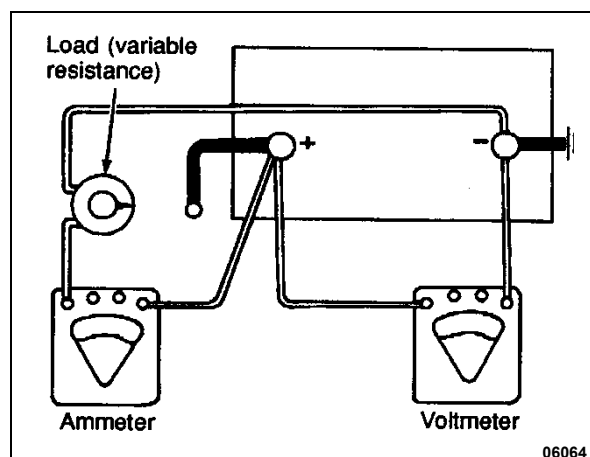

FIGURE 43: LOAD TEST
To make this test, use test equipment that will withstand a heavy electrical load from the battery, such as a carbon pile resistor along with an ammeter and volt meter (Figure 43). A charging system analyzer test equipment may also be used.
1. Connect a voltmeter, ammeter, and a variable load resistance as illustrated in Figure 43.